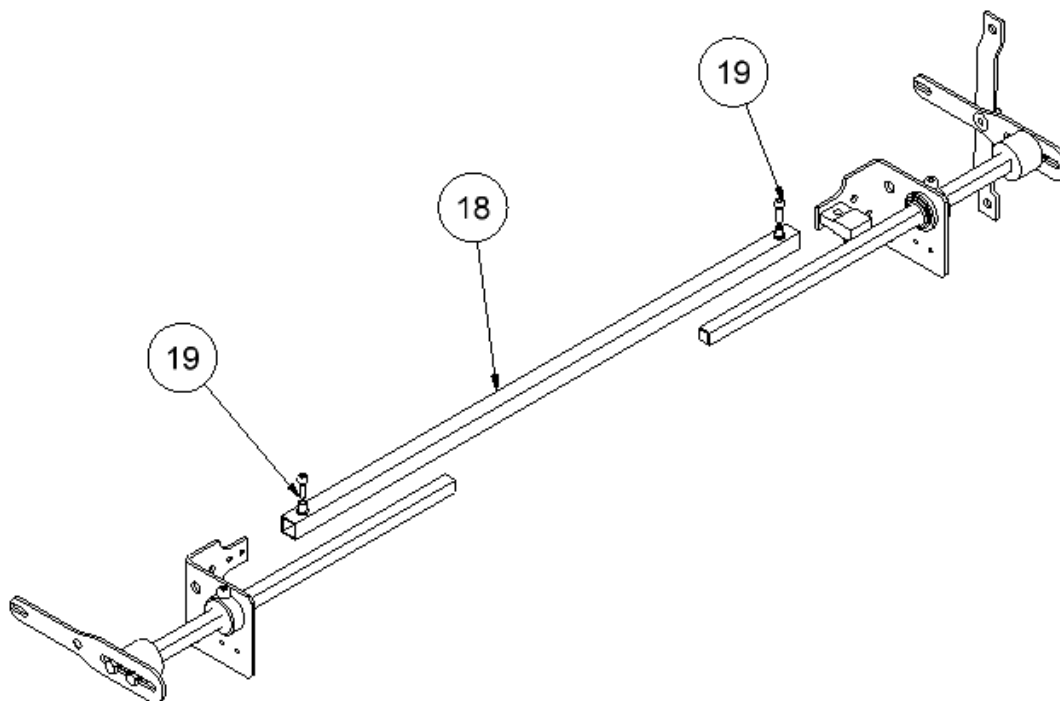

Figure 5
- 6. DRIVING BAR AXLE PLACING:** The joined arms must be introduced in endings of the driving bar axle (18) and must be screwed through M6 x 20 DIN 912 screws (19). The width of the driving bar can be adjusted introducing more or less the arms into the axle – Fig.5 -.